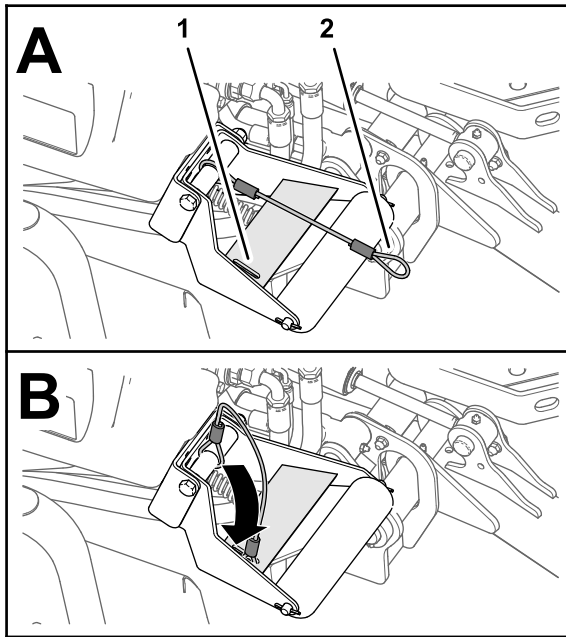

Figure 29
- With the cutting units lowered, slip the loop of the lanyard into the slot in the reinforcement plate of the roller support (Figure 29).